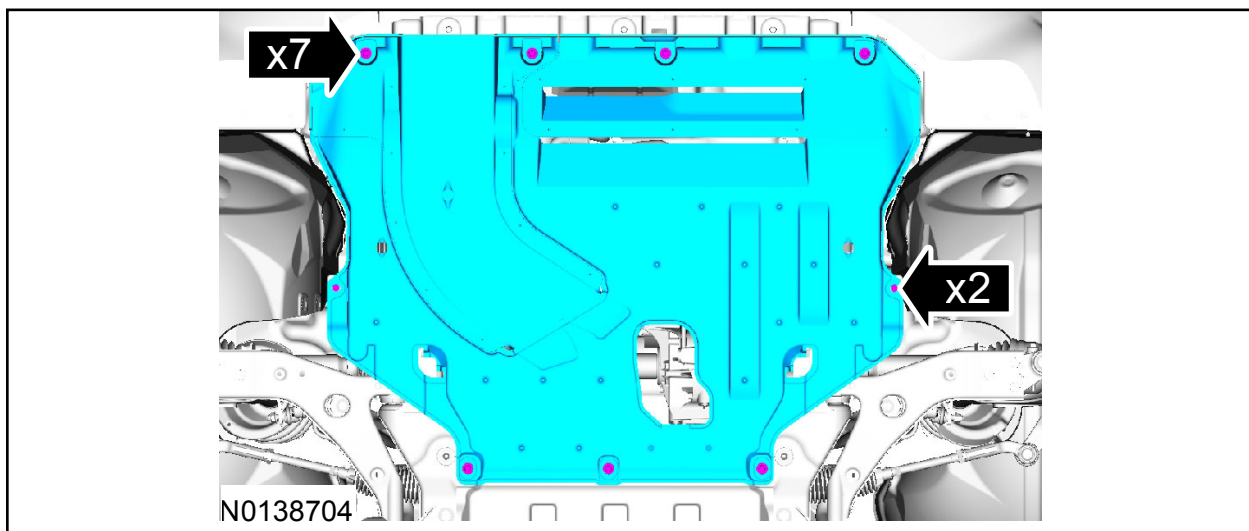

FIGURE 1
1. Remove the retainers and the engine front underbody shield. See Figure 1.
1. Install the engine front underbody shield and retainers. See Figure 1.